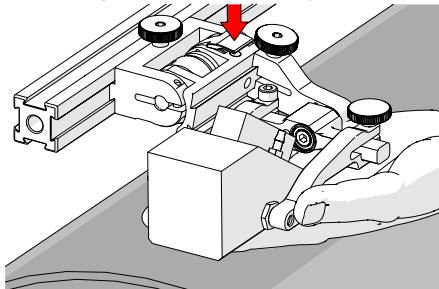

Fig. 139 - Lift and press latch button
3. Lift the probe slightly and press the latch button (Fig. 139) to apply spring pressure to the wedge.